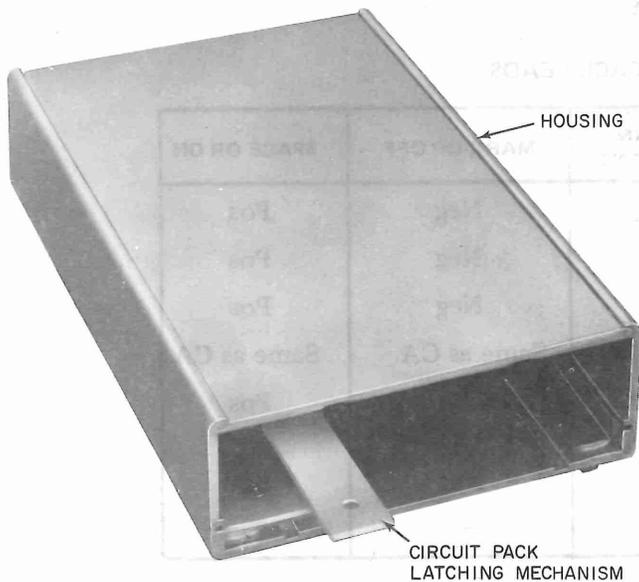

Fig. 3—Housing
2.05 Externally the housing is similar in appearance to the 47-type data mounting. The housing assembly consists of an aluminum extrusion which provides card guides for mounting the data card, and front and rear covers. No interface assembly or electrical connections are provided. All connectors are mounted directly on the circuit pack. The circuit pack is held in position by the latching mechanism shown in Fig. 3.